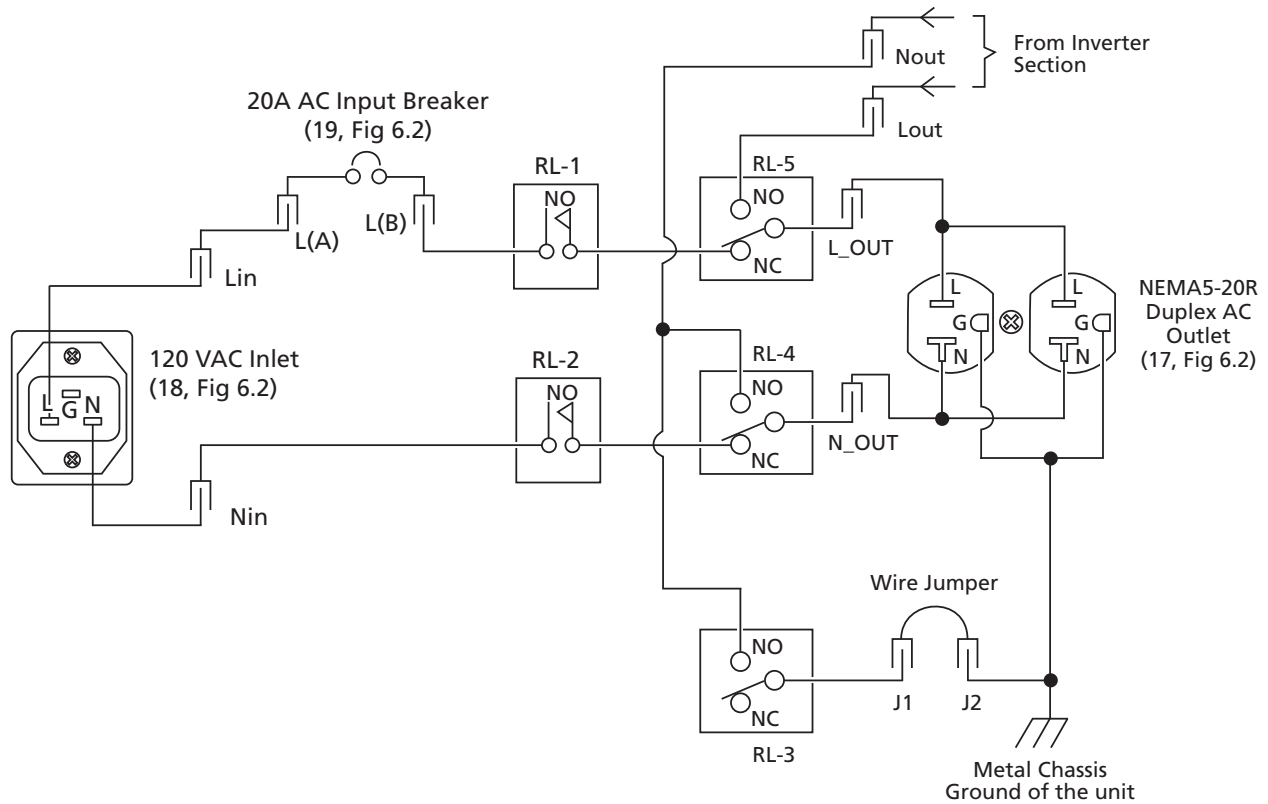

Fig. 5.1: Connection Diagram of Transfer & N-G Bond Switching Relays
When the Inverter Section is turned OFF but AC GRID input is still available, AC GRID input voltage will be bypassed to the load through the closed contacts of the energized Relays RL-1 and RL-2 and the Normally Closed (NC) contacts of the de-energized Relays RL-4 and RL-5( see Fig. 5.1). Relays RL-1 and RL-2 are energized by +12VDC generated by a small Switch Mode Power Supply (SMPS) that is powered from the AC GRID input and NOT from the batteries. Hence, in this condition, there will be no current draw from the batteries.
In this unit, set of Transfer Relays are used to (i) switch the AC load between the AC GRID and the Inverter (Section 5.4.1) and (ii) to switch Neutral to Chassis Ground bonding i.e. bond the Output Neutral to the Chassis Ground in Inverter Mode and unbond when in Bypass Mode (Section 5.4.3). Connection diagram of these relays is shown in Fig 5.1 below:
### LEGEND FOR FIG 5.1
### LEGEND FOR FIG 5.1 (Continued)
Refer to Fig 5.1.
Refer to connections of Relay RL-3 in Fig 5.1.
**5.4.3.1 Permanent isolation of Output Neutral from metal Chassis Ground:** In certain applications, it may be necessary to isolate the Output Neutral from the metal chassis ground permanently. For this requirement, remove the internal Wire Jumper connecting Terminals J1 and J2 (Fig 5.1) [will require removal of top cover of the unit to access this Wire Jumper].